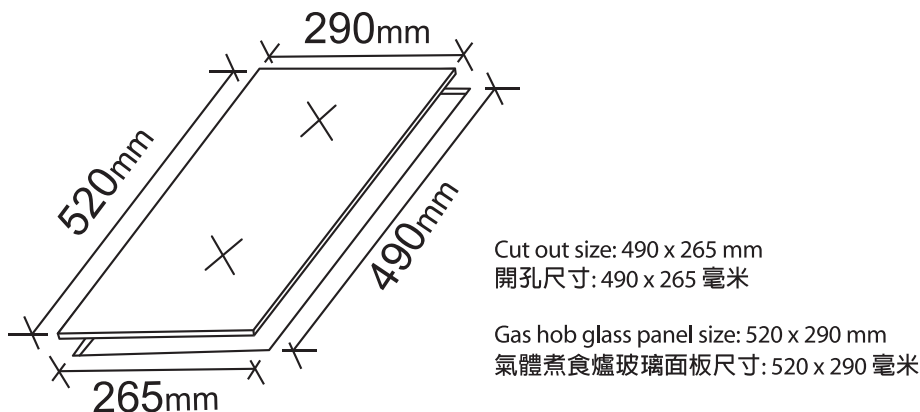
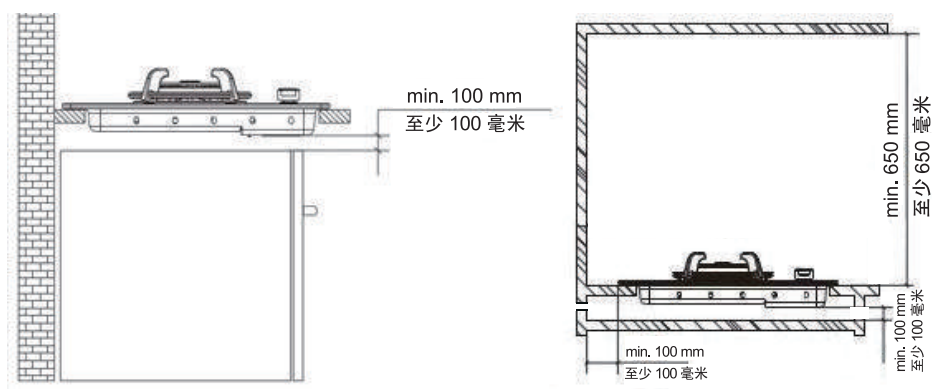

Fig.4 (圖4)
Fig.5 (圖5)
- Make sure the bench top of cabinet is heat resistant which can provide good support to the gas hob. Make an opening according to the cut out size on (Fig.4). Reserve the clearance space as per (Fig.5).
- If clearance between side and rear walls and periphery of the gas hob is less than 100 mm, the walls must be protected with non-flammable material. In case any fixture units are above the gas hob, there must be a minimum distance of 650 mm from the gas hob top. It is advisable to isolate the gas hob from the furniture below, leaving a space of at least 100 mm beneath. (Fig.5)